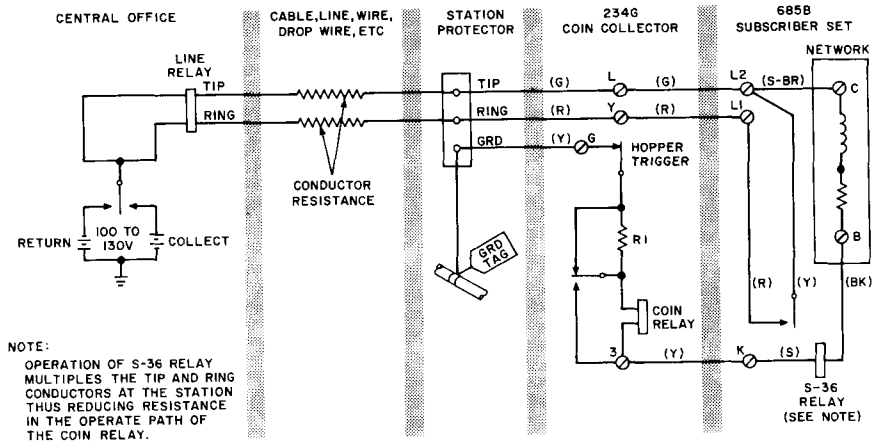

Fig. 5 - Connections and Operate Path of S-36 Relay (685B Subscriber Set)
- Installations with excessive loop resistance may require the use of a 685B subscriber set (S-36 relay). When required a 233- or 234-type coin collector must be used. Refer to Table C for use of 685B subscriber set and Fig. 5 for connections and operate path of the S-36 relay. For complete connection information see Section 506-215-404.